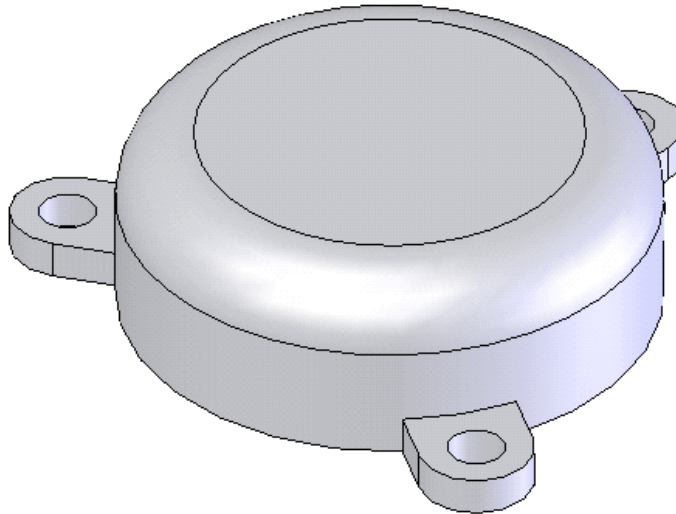

Figure 8-71 The edited pattern feature
- Edit the circular pattern, refer to Figure 8-71.
The model after editing the features is shown in Figure 8-71.